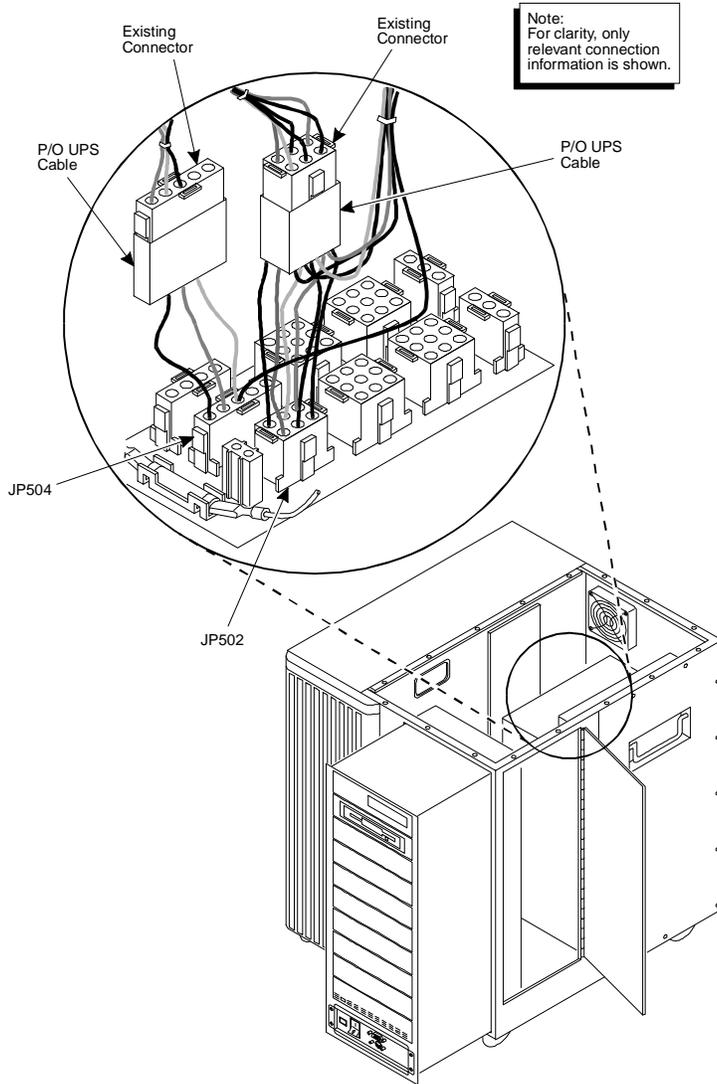

Figure 9-17. Uninterruptible Power Supply (UPS) Connections
2. Verify that the Remote Maintenance circuit card uninterruptible power supply (UPS) cable is connected to the MAP/100 UPS and UPS status cable as shown in Figure 9-17.